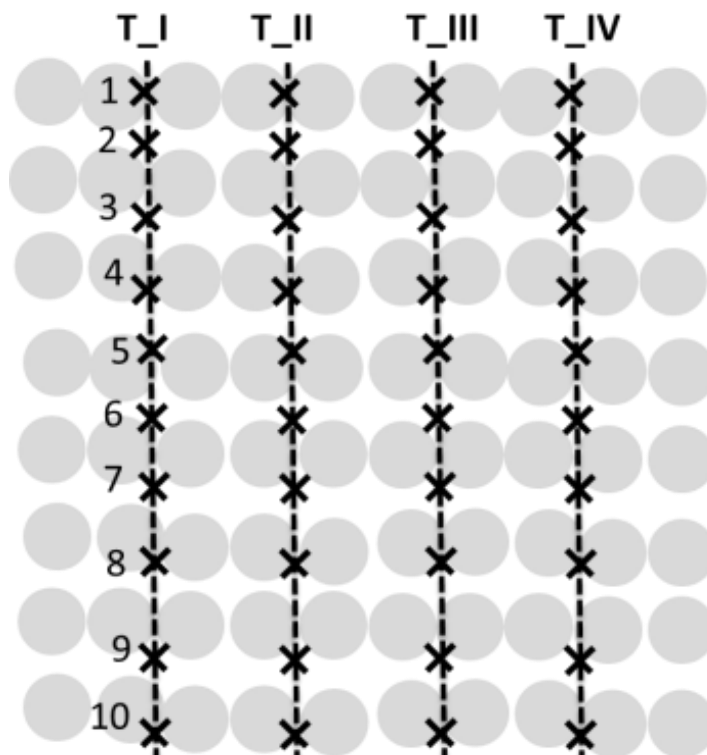

Fig. 11 Schematic drawing of transects (T) in vegetation cover.
1. Define measurement points for canopy measurement. The points can be arranged in a grid or transects to surpass vegetation cover inhomogeneity caused by different canopy gaps etc. A suitable layout of transects helps to fix the distance (e.g. three steps) between measurement points and proportionally characterize all the diverse parts in vegetation cover. An example of a suitable transect layout in homogenous vegetation cover planted in rows is shown in Fig. 11.